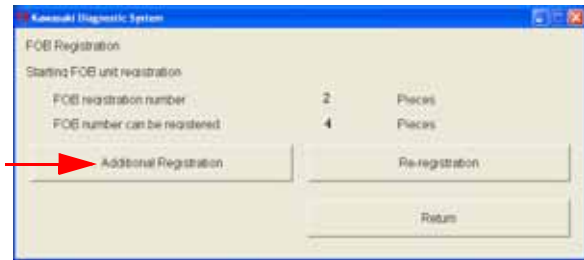

Fig. 5-29 Fob Registration Screen
- o Current information is displayed (Fig. 5-29).